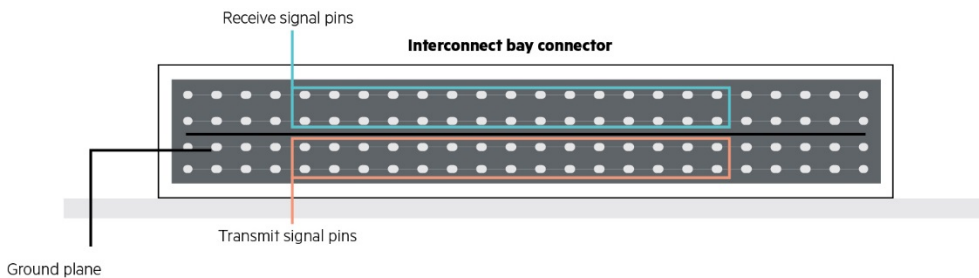

Figure 10. Ground plane to isolate, receive, and transmit signal pins
- Using a ground plane to isolate, receive, and transmit signal pins as shown in figure 10